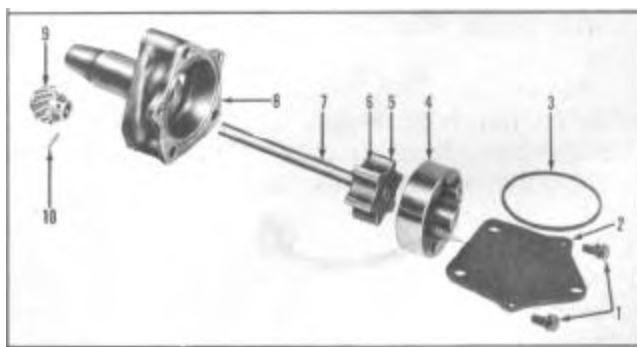

FIGURE 6
1. Remove cover screws (1), Figure 6, cover (2), and gasket (3).
2. Hold hand over cover opening and with pump upside down, turn drive shaft until outer rotor (4) slips out.
3. Drive out straight pin (10) which holds pump drive gear (9) to shaft.
4. Press shaft (7) out of gear (9) by supporting oil pump body (8) on cover face in a suitable arbor press allowing inner rotor and shaft to clear when pressing shaft out of gear.
1. Install outer rotor (4) in pump body, Figure 6.
2. Slide shaft (7) and rotor (5) assembly into pump body.
3. Support oil pump body and shaft, and rotors assembly on a suitable clean surface and press oil pump drive gear (9) on shaft (7). End play between hub of gear and pump body should be .004" to .008".
5. Make sure pump is thoroughly clean, then install cover gasket (3) in recess of pump body.
6. Install cover (2). Tighten screws evenly and securely.